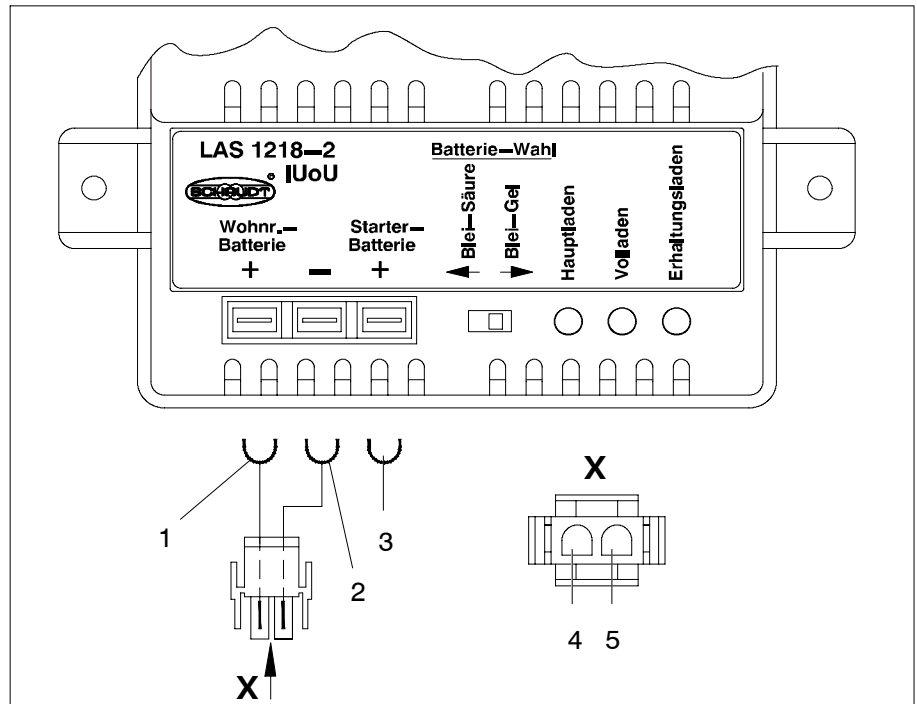

Fig. 3 Connection Diagram of LAS 1218-2 Battery Charger - on Electroblock
- + terminal of LAS 1218-2 living area battery: Flat push-on contact, 6.3 x 0.8; (Fig.3; Pos. 1)
- - terminal of LAS 1218-2: Flat push-on contact, 6.3 x 0.8; (Fig.3; Pos. 2)
- MNL connector (view X, Fig. 3; Pos. 4/5) or Minifit connector on electroblock, base "auxiliary charger" ; see also instruction manual for electroblock